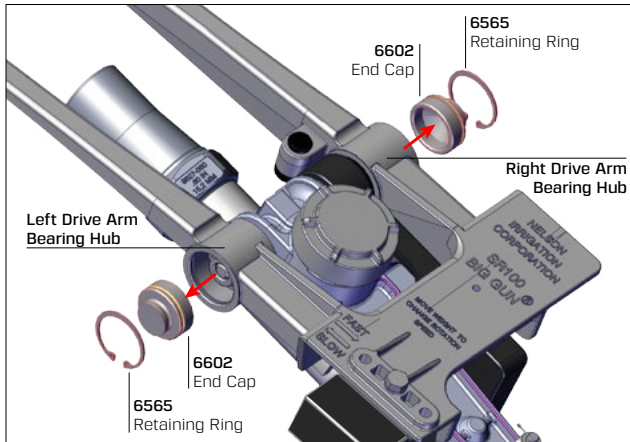

Fig. 1.
- A. Remove two **#6565** retaining rings from each drive arm bearing hub (left/right) using retaining ring pliers (see Fig. 1).